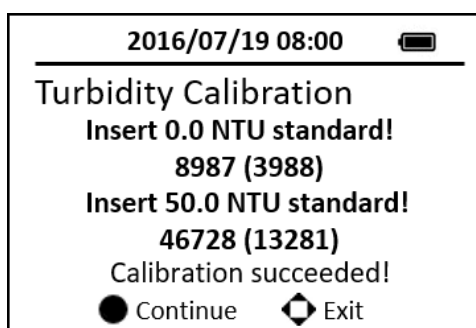

Figure 21. Turbidity Calibration-2
8. Press the **OK** key to continue high range turbidity calibration. If high range turbidity calibration not required, press any keys to exit. (Figure 21)